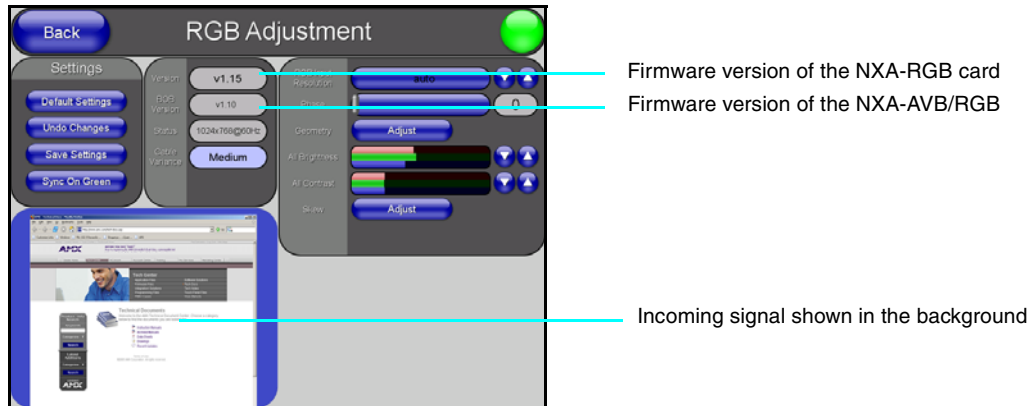

FIG. 102 RGB Adjustment page (showing the default values)
4. Press the **Video Adjustment > RGB Adjustment** buttons to open the RGB Adjustment page (FIG. 102). This page displays the firmware for both the internal NXA-RGB card and the communicating external NXA-AVB/RGB Breakout Box (BOB).